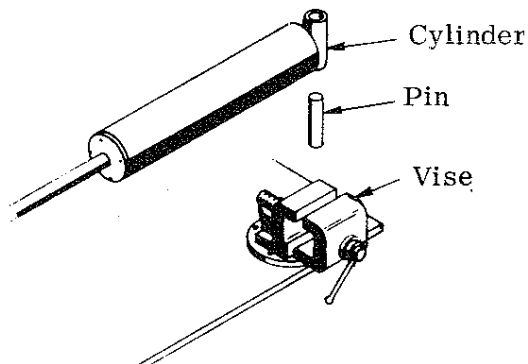
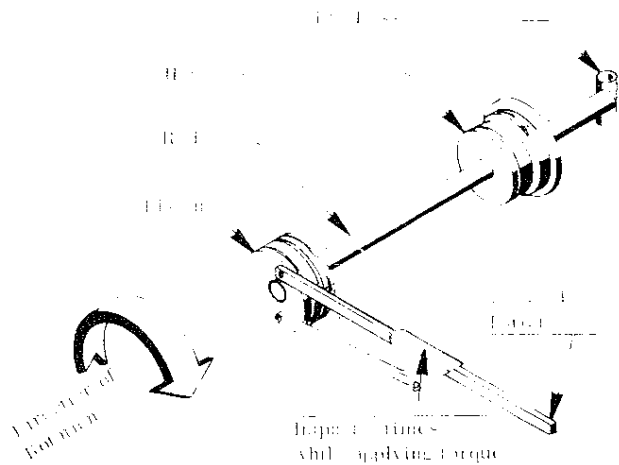

Figure G-1. Securing Cylinder
Figure G-6. Piston/Rod Assembly
3. Place the cylinder on a flat surface near a vise. Slip a pin through the pin boss and clamp the pin in a vise (Figure G-1).
5. Secure the rod pin boss in the same manner as the cylinder pin boss (Figure G-1).
- 13 Secure the rod as shown in Figure G-1 and screw the piston onto the rod by hand. You should be able to get the piston almost all the way onto the rod before using the spanner wrench
- 14 Torque the piston onto the rod at 250 ft. lbs. of torque. Impact the wrench three times with a heavy plastic hammer while maintaining the torque (Figure G-6)
- 18 Secure the cylinder (Figure G-1) and torque the head in the same manner as the piston (Step 14 Figure G-6)